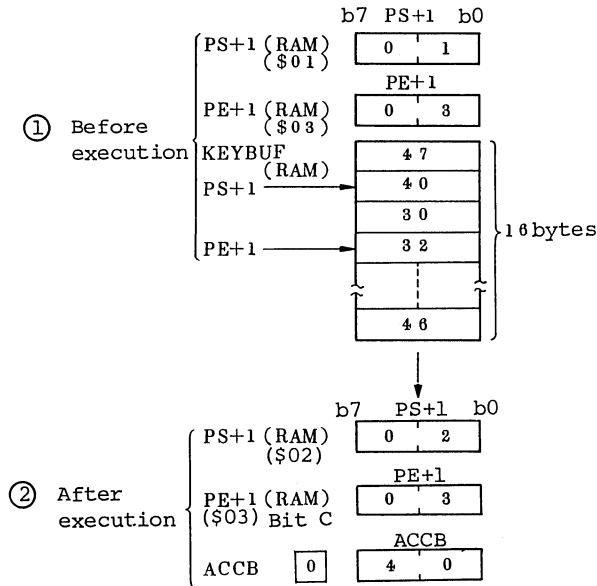

Figure 8-6. Example of KEYOUT Execution
- b. Example of KEYOUT execution is shown in figure 8-6. If KEYOUT is executed with the condition shown in part ① of figure 8-6, data is stored in ACCB as shown in part ② of figure 8-6.